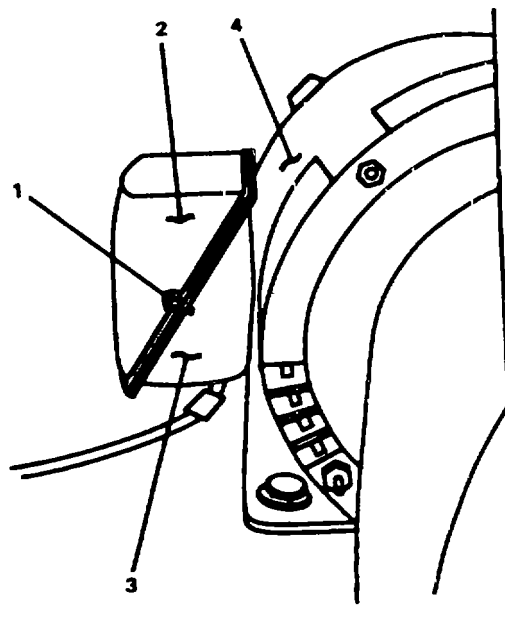

Figure 2-129. Electrical Junction Box.
a. Remove screws (1, Figure 2-129) holding electrical junction box cover (2). Remove cover.